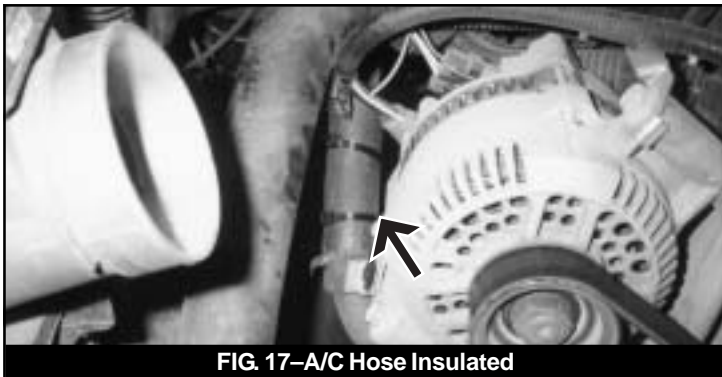

FIG. 17—A/C Hose Insulated
56. On A/C equipped models the A/C hose may be rubbing on the alternator. Use the provided 3/4" x 6" piece of hose and zip ties to insulate the hose (Fig. 17).